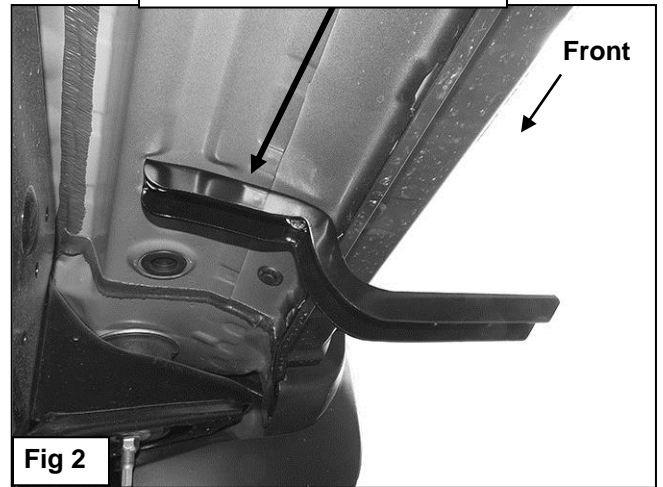

Fig 2
2. Starting on the passenger side of the vehicle, remove the existing (2) factory bolts, (or plugs), located by the front tire opening, **(Figure 1)**. Select (1) Front Mounting Bracket. Hold the Front Bracket up to the bottom of the body panel and against the pinch weld. Bolt the bracket to the factory threaded holes with the included (2) 8mm x 30mm Hex Bolts, (2) 8mm Lock Washers and (2) 8mm Flat Washers, **(Figure 2)**. Do not tighten hardware at this time.